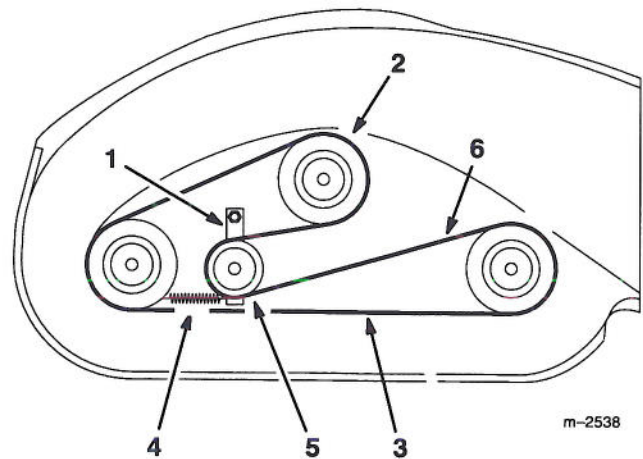

Figure 26
2. Grease the fittings on the three spindle bearings (Fig. 26).
3. Grease the pivot plate fitting (Fig. 26).
3. Disconnect the idler arm spring to relieve tension on the idler arm and idler pulley, then remove the worn deck belt (Fig. 26).
4. Install the new deck belt around the spindle pulleys, belt guide, the idler pulley, and in the lower groove of the center spindle pulley (Fig. 26).
5. Connect the idler arm spring (Fig. 26).